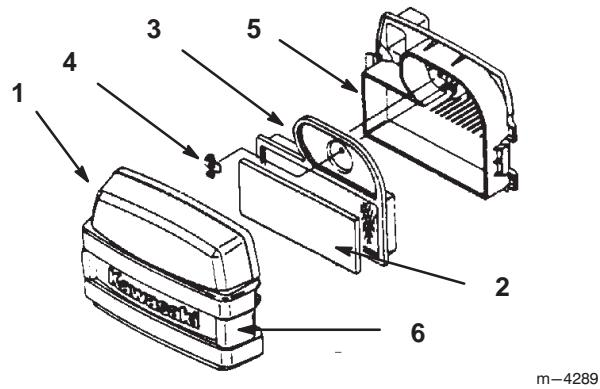

Figure 20
3. Clean around the air cleaner to prevent dirt from getting into the engine and causing damage. Unlatch the two side latches and remove the air cleaner cover (Fig. 20).
4. Carefully remove the foam element from the paper element (Fig. 20).
5. Unscrew the wing nut and remove the paper element (Fig. 20).
- Carefully slide the foam element into the paper air cleaner element (Fig. 20).
- Place the air cleaner assembly onto the air cleaner base and install the wing nut (Fig. 20).
- Install the air cleaner cover and latch it (Fig. 20).